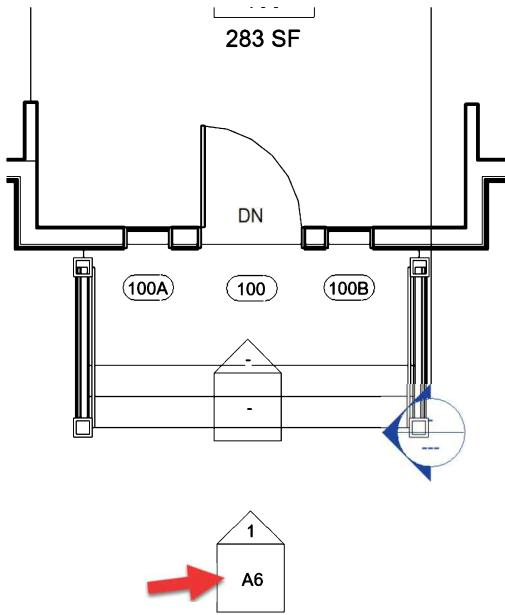

FIGURE 15-1.7 First Floor – elevation tag filled-in
(Figure 15-1.7).
Notice in Figure 15-1.7 that the number A6 represents the sheet number that the drawing can be found on. The number one (1) is the drawing number to look for on sheet A6. The empty tag is the enlarged elevation view you set up earlier in the book; it has not been placed on a sheet yet, so it is not filled in.